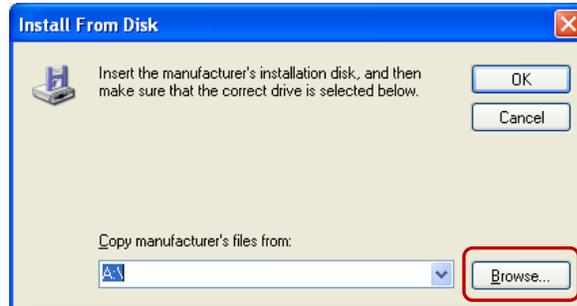

Fig. 23
17. Click Browse as shown in Figure 23.